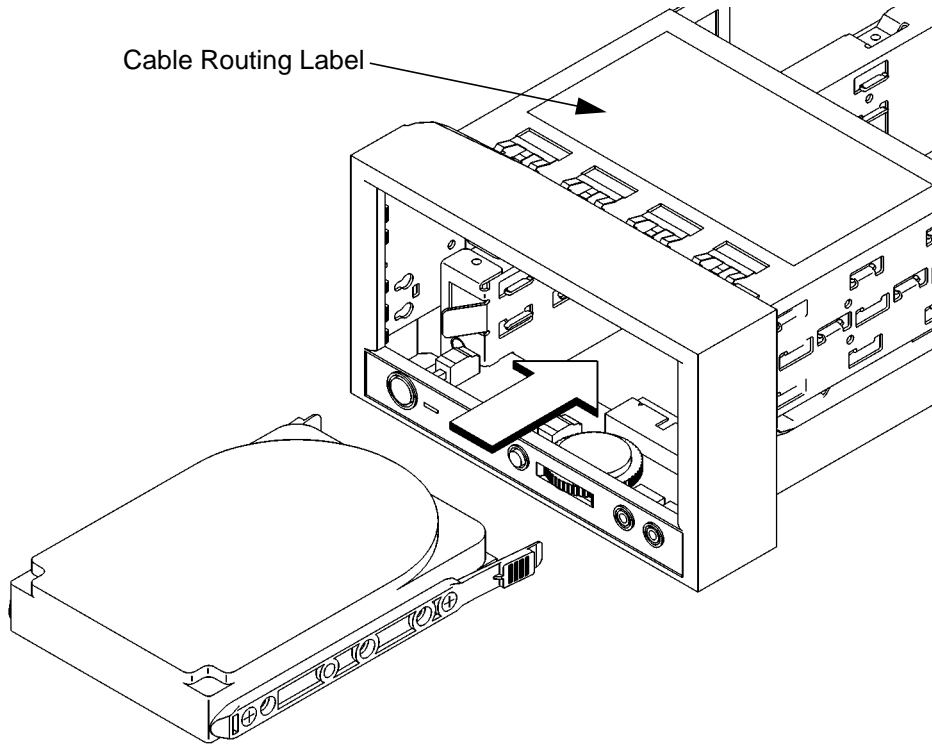

Figure 33 **Installing a Hard Disk Drive in Position 1**
- 2 Reach into the storage bay and locate the power and data cables for the disk drive. Refer to the cable routing label on the storage tray. See Figure 33.
- 4 From the front of the storage tray, line up the disk slides on the hard disk drive with the position 1 slots in the storage tray chassis and slide it into place, as shown in Figure 33.